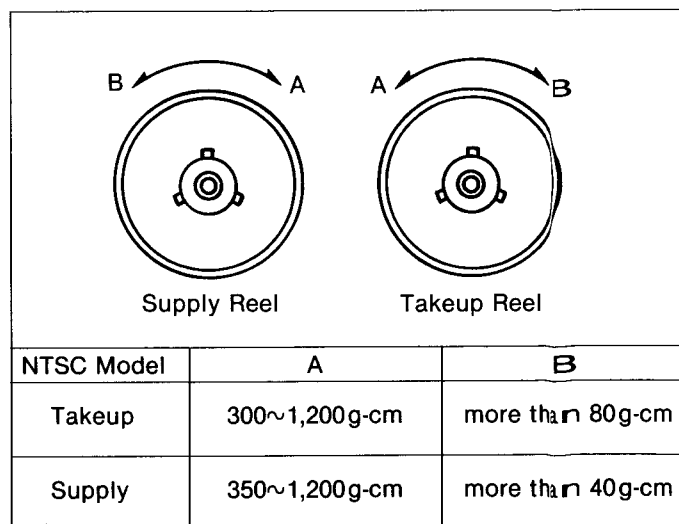

Fig. 7 Confirmation of Brake Torque-(2)
3. Turn torque gauge in either direction indicated in the Fig. 7 and read the gauge when the brake begins slipping.